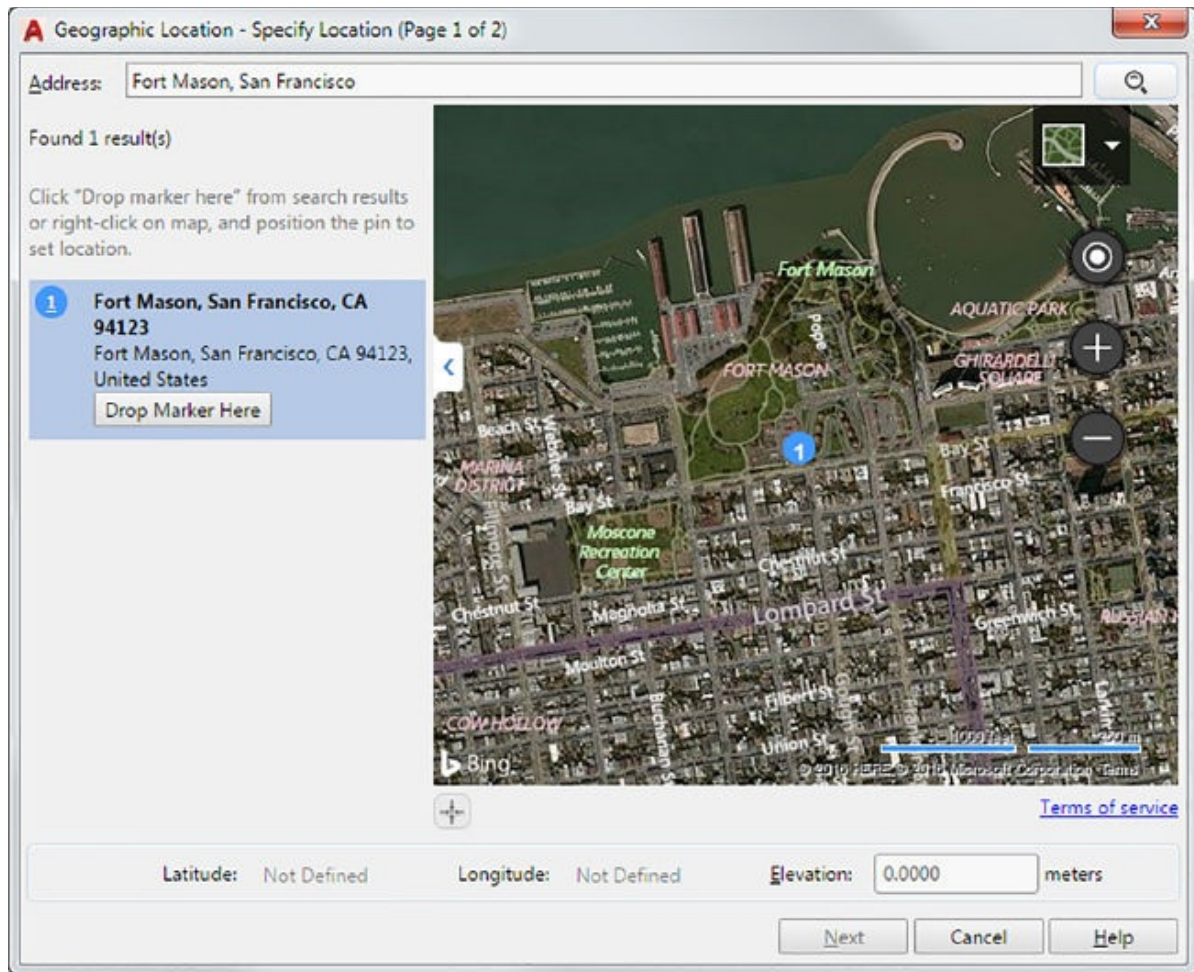

FIGURE 13.20 An aerial view of your selected location appears in the dialog box.
4. Enter a location name or address in the text box at the top of the dialog box, and click the magnifying glass icon. For this exercise, enter **Fort Mason, San Francisco**. The dialog box changes to show an aerial view map of Fort Mason. In the left side, you see a list keyed to numbered locations on the map (see Figure 13.20). If there are multiple locations that contain the name you entered in this step, you will see them labeled with numbers.